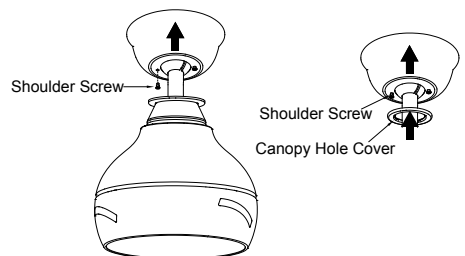

Fig. 9
Step 6. Remove one of the two shoulder screws in the hanger bracket. Loosen the second shoulder screw without fully removing it. Assemble canopy by rotating key slot in canopy over shoulder screw in hanger bracket. Tighten shoulder screw. Fully assemble and tighten second shoulder screw that was previously removed. Securely attach and tighten the canopy trim cover over the shoulder screws in the hanger bracket utilizing the keyslot twist-lock feature. (Fig. 9)